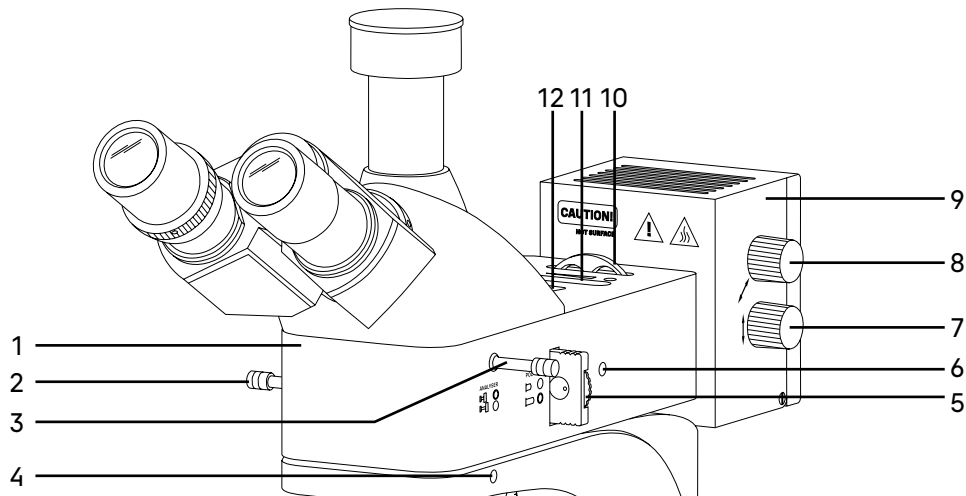

Fig. 4. Reflected light illuminator
The reflected light illuminator is shown in Fig. 4.
The illuminator body 1 (Fig. 4) is mounted on top of the stand and secured with the screw 4 (Fig. 4) using an Allen wrench. The illuminator body houses:
- a polarizer/analyzer set: rotating polarizer 5 (Fig. 4) and built-in analyzer 3 (Fig. 4)
- a field diaphragm 12 (Fig. 4) and an aperture diaphragm 11 (Fig. 4)
- a fixed ring with a color filter set 10 (Fig. 4) that has five positions, including a free slot and 4 filters: frosted glass, yellow, green, and blue
- a brightfield/darkfield switch lever 2 to enhance the contrast and image detail of samples, which allows for better viewing of their microstructure (The brightfield mode provides a clear magnification of the object. The darkfield microscopy allows the user to observe a sample in scattered light which delivers high-contrast images of grain boundaries and surface defects not visible in the bright field). To enable the darkfield microscopy, pull out the brightfield/darkfield lever 2 (Fig. 4) to position **DF**; for the brightfield observations, make sure that the lever is in the pushed-in position **BF**.
The polarizer 5 (Fig. 4) is located in the illuminator between the light source and objectives. The polarizer has two positions: free slot and polarization filter. The polarizer rotates 0–360°. It should be inserted all the way in to be introduced into the optical path. Polarized light is transmitted through the objective to the specimen.
The analyzer 3 (Fig. 4) is located between the objective and the microscope head. The analyzer has two positions: free slot and polarization filter. It should be inserted all the way in to be introduced into the optical path.
The lamphouse 9 (Fig. 4) is secured to the illuminator 1 (Fig. 4). Inside the lamphouse is the light source – halogen bulb. The bulb is centered on three axes by the knobs 15 (Fig. 2) and 7, 8 (Fig. 4).